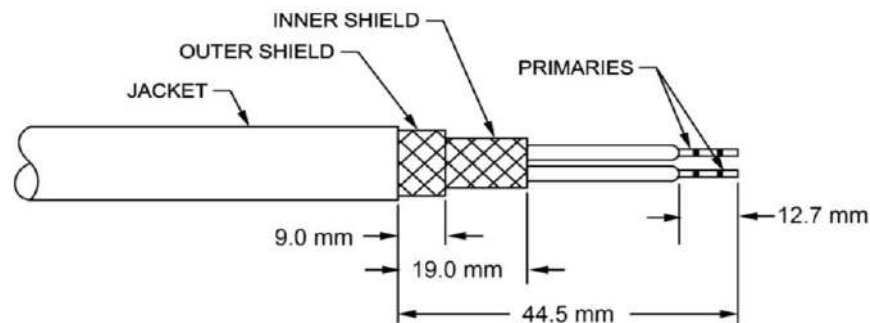

Figure 5-28 Double Shield Cable Strip Dimensions
- a. Remove 43mm of cable jacket (Figure 5-28).